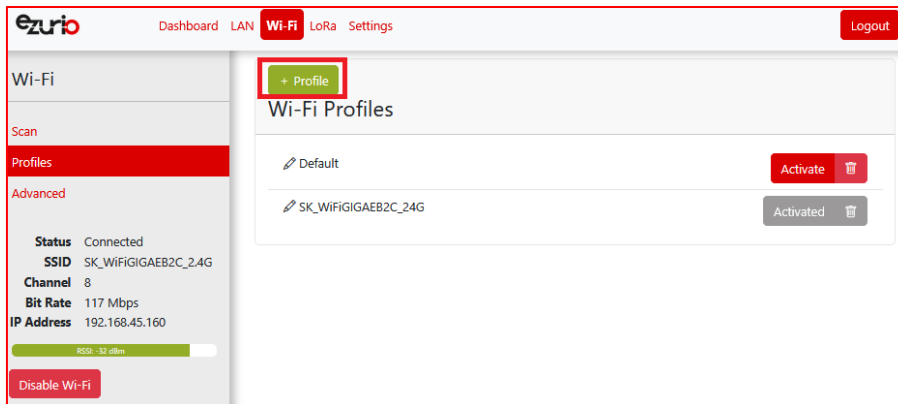

Figure 24: Wi-Fi profiles page
- Click the **LAN** button in the main menu, then click the **Profiles** button on the top. This page is useful for adding a hidden Wi-Fi network that is not broadcasting its SSID (Figure 24).